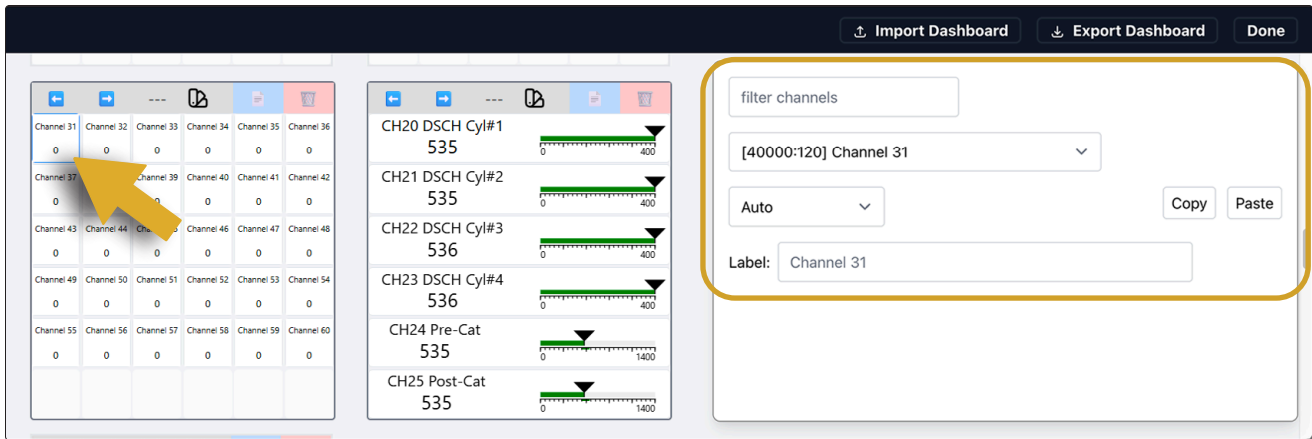

Figure 26
4. **Editing channel details:** Click the center of an element to select it. The element's outline turns blue, and the channel details are displayed on the right side of the screen. See *Figure 26*. The channel details may be changed to match your DE-3000 setup: